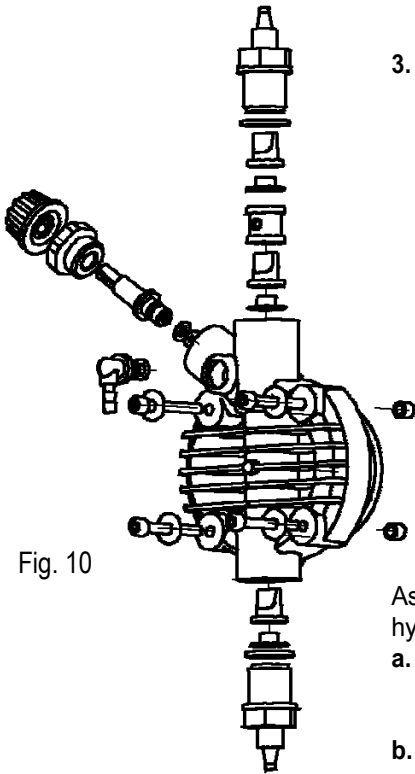

Fig. 10
3. Drain the liquid present in the pump body by disassembling and reassembling the pump body using the four fixing screws, tightening torque 180÷200 Nxcm (Fig. 10).
2. Check pump operation, screw seals and gaskets every 6 months and for very aggressive liquids make more frequent checks and in particular monitor the concentration of the plant additive; a reduction in additive concentration could be determined by wear on the valves (in this case substitute the valves being careful to reassemble them as in Fig. 10) or by clogging of the filter which must be cleaned as follows.
To perform this operation when the equipment is not fixed to the plant, the pump can be pulsed for a few seconds (15-30) keeping it overturned and without piping connected to the fittings. If this is not possible disassemble and reassemble the pump body (Fig. 10), using the four fixing screws.